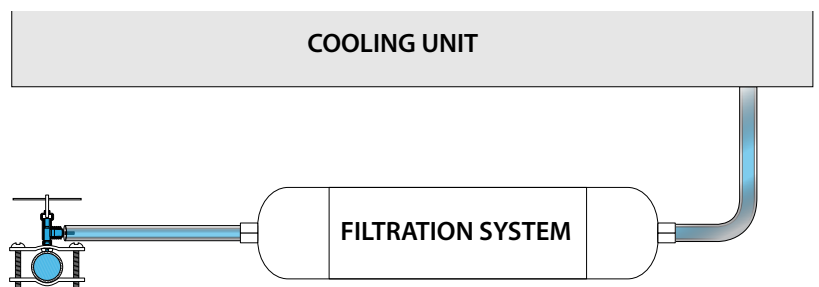

Figure 2
- The water supply should pass through either a Water-Softener or a Filtration system before reaching the unit as shown in Figure 2.